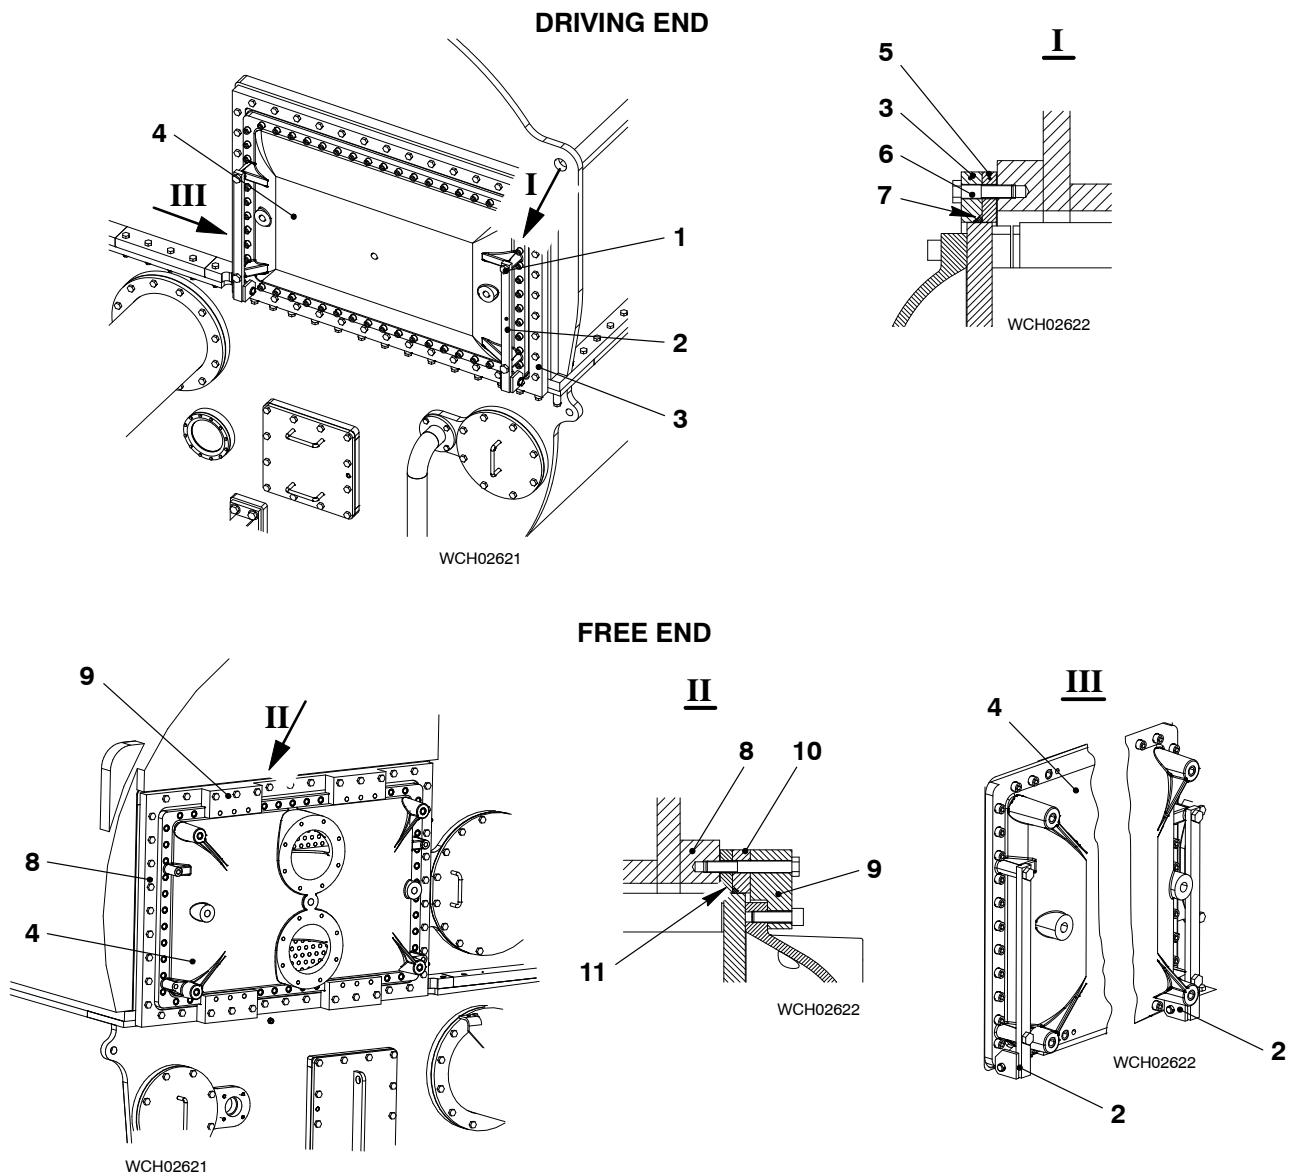

Fig. 2
- 1) At the driving end, remove the four screws (1, Fig. 2).
- 2) Remove the two rollers (2) from the SAC (4).
- 3) Remove the screws (6), then remove the flange (3).
- 4) Remove the collar (5)
- 5) Remove and discard the O-ring (7).
- 6) At the free end, attach the two rollers (2) to the SAC (4).
- 7) Remove the four clamps (9).
- 8) Remove the collar (10).
- 9) Remove the flange (8).
- 10) Remove and discard the O-ring (11).